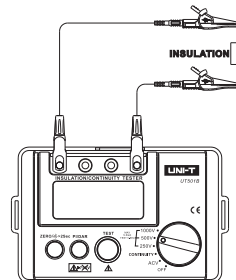

Figure 3
10. Insulation Resistance Measurement (See Figure 3)